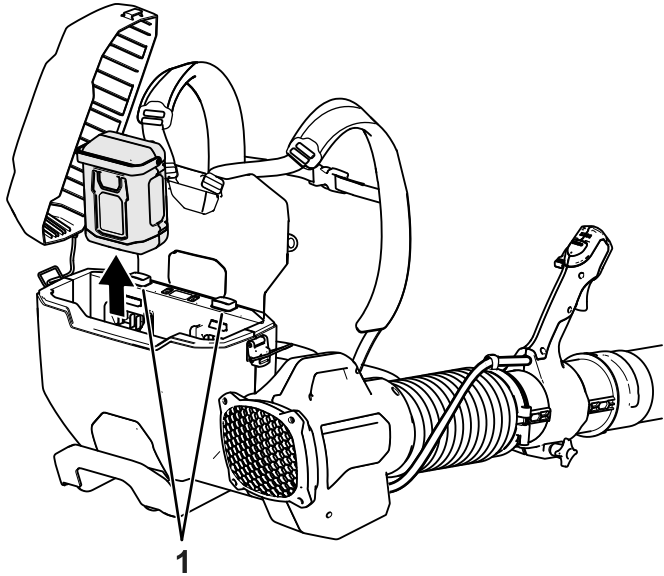

Figure 22
3. Press down on the battery latch button and lift the battery (or batteries) up out of the backpack (Figure 22).